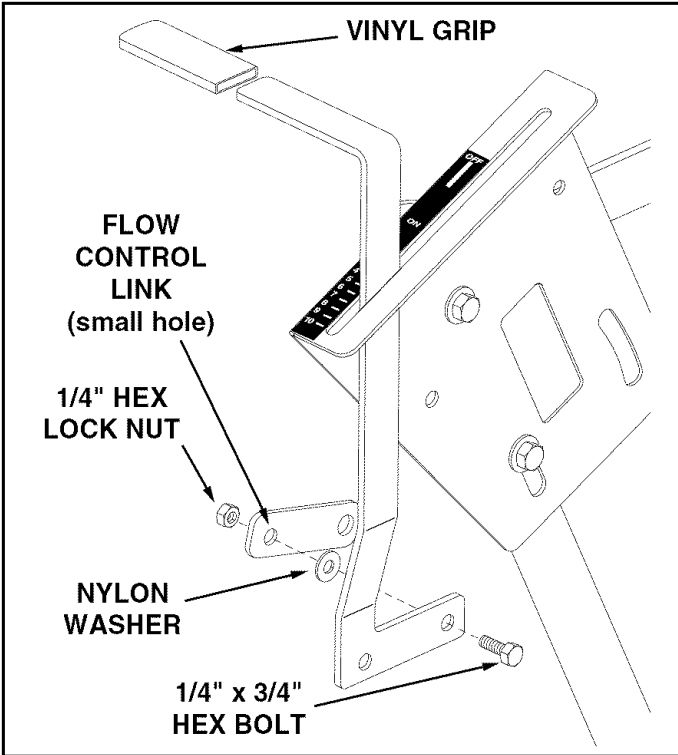

FIGURE 7
- Assemble the vinyl grip onto the flow control arm. See figure 7.
- Insert the flow control arm down through the slot in the flow control bracket. Assemble the flow control link (small hole) to the flow control arm using a 1/4" x 3/4" hex bolt, a nylon washer and a 1/4" hex lock nut as shown in figure 7. **Tighten carefully.** The flow control link should be snug but should pivot with no more than slight resistance.